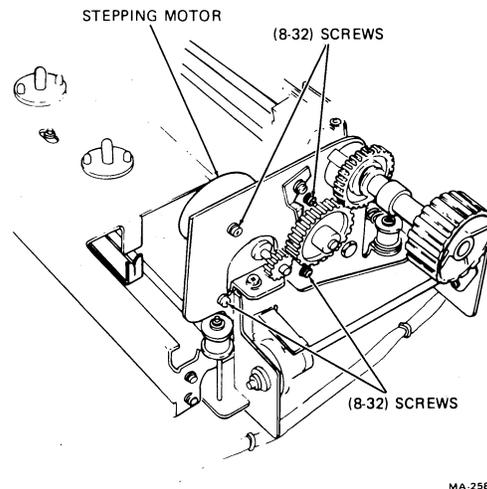

Fig. 18—Stepping Motor Assembly Removal and Installation
- (f) Remove the four (8-32) screws, flat washers, lockwashers, and hex nuts that secure the stepping motor to the left-hand side plate. Set the stepping motor aside (Figures 18 and 19).